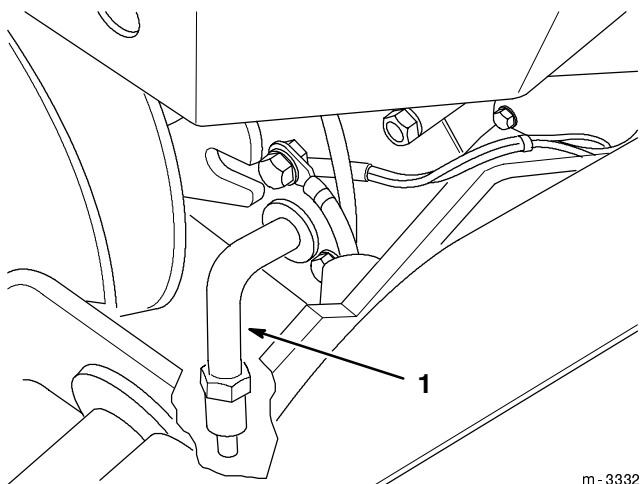

Figure 29
4. Place a pan below the oil drain. Open the drain by turning it counterclockwise 1/8 turn and pulling out on it (Fig. 29).